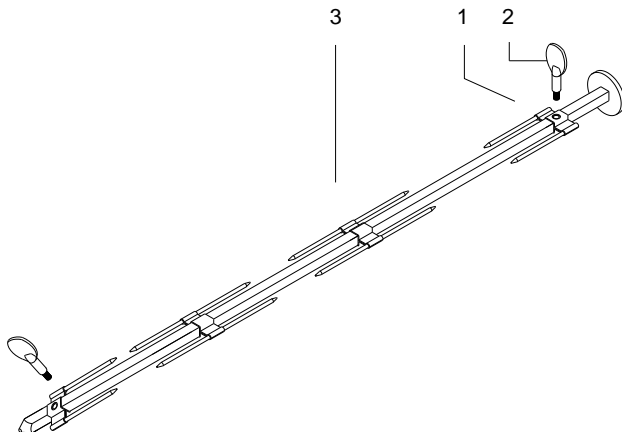

Fig. 5
- Put the simple skewer (1) in the spit (3) until it reaches the safety limit of the spit. Then fix it with the screw (2). (See fig. 5).
- Then place a chicken on the spit and hold it in place with the skewer already in position. Put the double skewer (4) on the spit and in a chicken. Repeat this operation until the spit is fully loaded and finally put a simple skewer in place and fix it with its screw.